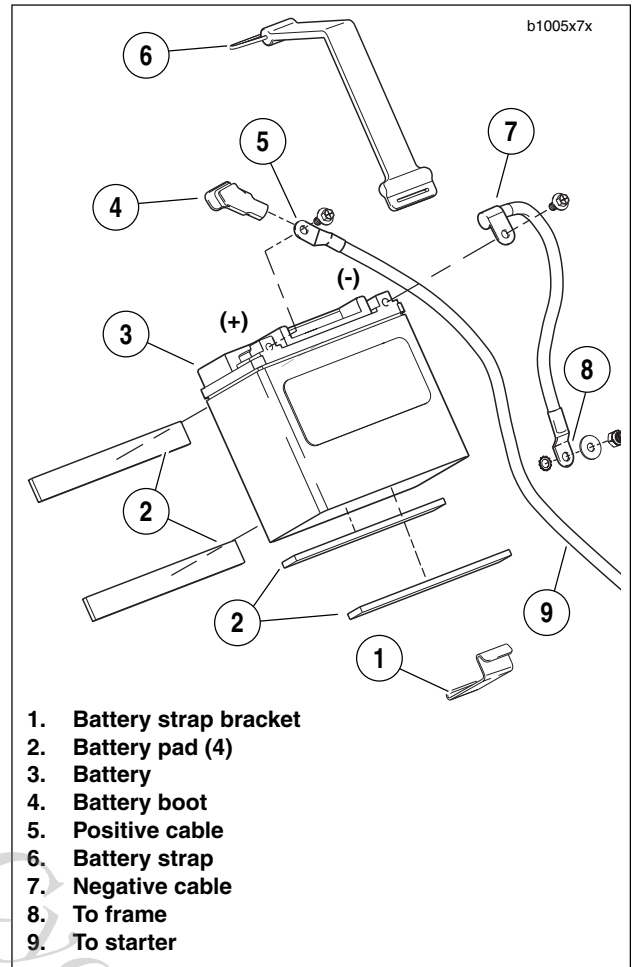

Figure 7-38. Battery
- See Figure 7-38. Disconnect negative and positive cables from battery, negative cable first.
- See Figure 7-38. Positive battery cable runs from starter to positive battery terminal.